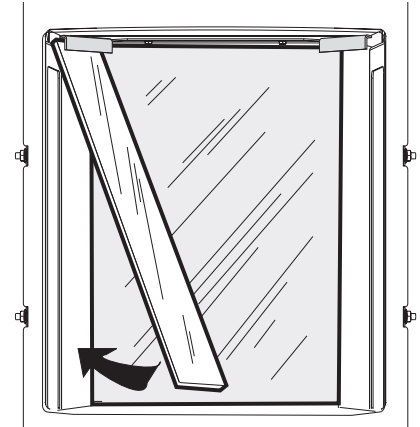

*Figure 26a.
- Orient the rear panel, shiny side out, textured side in.** Tilt the panel to engage its upper edge behind the retainer brackets. See fig. 26a. Each bracket is secured to the top of the firebox by a sheet metal screw, located behind the forward flange. It may be necessary to slightly loosen the screw to adjust the bracket to accommodate the rear panel.